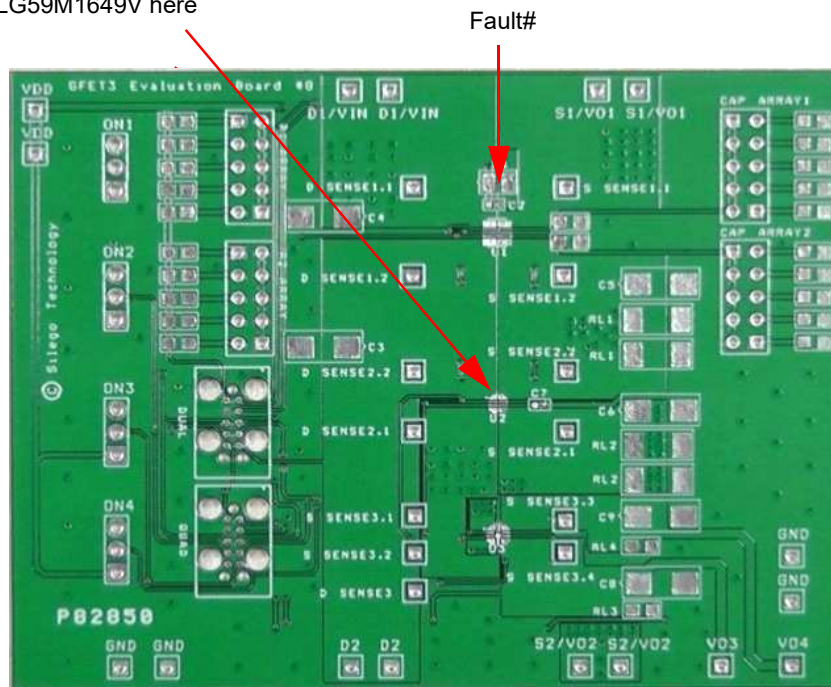

Figure 1. SLG59M1649V Evaluation Board.
1. Since the VIN and VOUT pins dissipate most of the heat generated during high-load current operation, it is highly recommended to make power traces as short, direct, and wide as possible. A good practice is to make power traces with absolute minimum widths of 15 mils (0.381 mm) per Ampere. A representative layout, shown in Figure 1, illustrates proper techniques for heat to transfer as efficiently as possible out of the device;
A GreenFET Evaluation Board for SLG59M1649V is designed according to the statements above and is illustrated on Figure 1. Please note that evaluation board has D_Sense and S_Sense pads. They cannot carry high currents and dedicated only for RDS_{ON} evaluation.